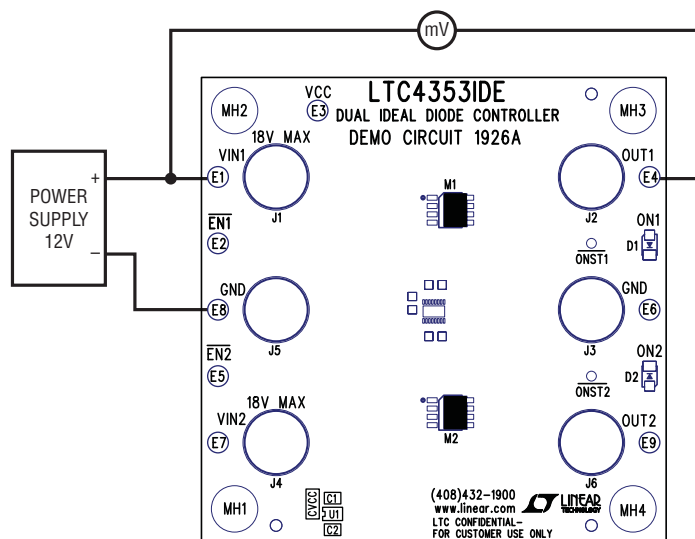

Figure 1. Ideal Diode Regulation Voltage Measurement
1. Connect a 12V power supply to  $V_{IN1}(+)$  and GND (-) of the DC1926A. Place a millivoltmeter between the input ( $V_{IN1}$ ) and output (OUT1) turrets (refer to the diagram of Figure 1). This is the controller regulation voltage. The regulation voltage should be in the range of 2mV to 50mV.